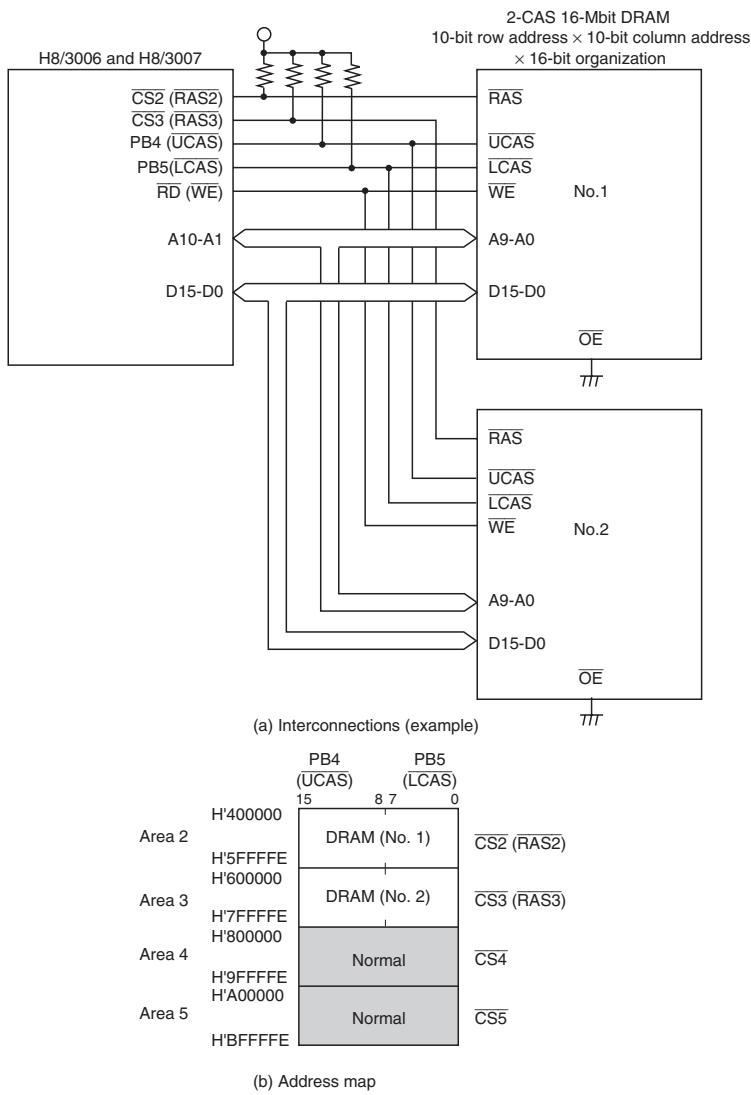

Figure 6.29 Interconnections and Address Map for 2-CAS 16-Mbit DRAMs with \times 16-Bit Organization
- Figure 6.29 shows typical interconnections when using two 2-CAS type 16-Mbit DRAMs using a \times 16-bit organization, and the corresponding address map. The DRAMs used in this example are of the 10-bit row address \times 10-bit column address type. Up to four DRAMs can be connected by designating areas 2 to 5 as DRAM space.